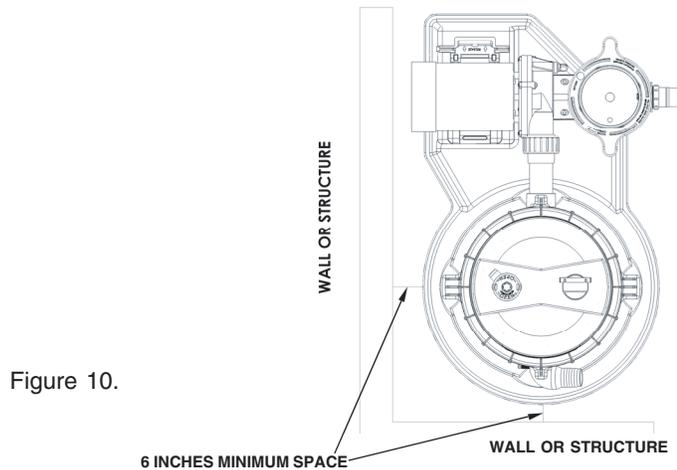

Figure 10.
5. Screw the hose adaptor, item number 711006, into the inlet port of the pump. This is the opening in the sidewall of the pump pot. Use rmo dgtu tape on the threads and tighten no more than one (1) turn past hand tight. Connect the flex hose to this adaptor with a hose clamp and tighten with a screwdriver.
9. Provide sufficient clearance around the filter to permit visual verification that the lock ring is properly installed. See Figure 10.